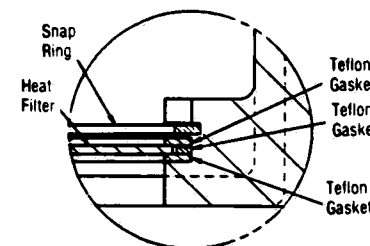

Figure 4-3. HEAT FILTER ASSEMBLY.
CAUTION: Coated side of filter is to face lamp cover. Do not touch heat filter with fingers. Make sure all three Teflon gaskets are installed and oriented as shown in Figure 4-3.
4. Reinstall top Teflon gasket. Ensure all three Teflon gaskets and filter are firmly seated together (see Figure 4-3).